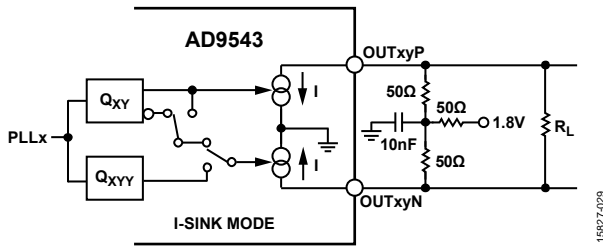
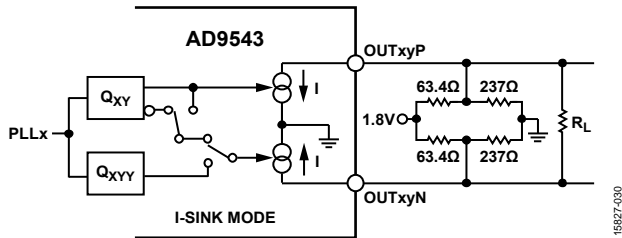

Figure 34. LVDS-Compatible Output, 1.24 V Common-Mode, T Network ( $I = 7.5$  mA;  $I = 15$  mA with Extra 100 Ω Termination,  $R_L$ )
Figure 35. LVDS-Compatible Output, 1.2 V Common-Mode, Thevenin Bias Network ( $I = 7.5$  mA; 15 mA With Extra 100 Ω Termination,  $R_L$ )
- The 15 mA mode produces a voltage swing and is compatible with LVPECL. If LVPECL dc signal levels are required, the designer must ac couple and rebias the AD9543 output. The 15 mA mode can also be used with the termination scheme shown in Figure 34 and Figure 35 to produce an LVDS signal with the correct LVDS dc bias.